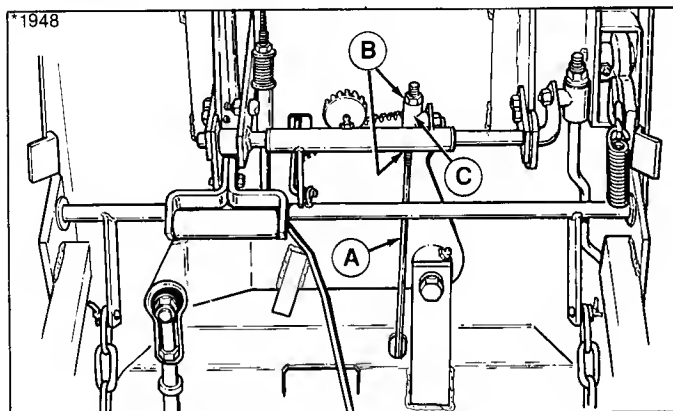

Figure 40. Hydro Control Rod
2. Loosen nuts (B, figure 40) on either side of guide (C). Leave 1/4" clearance on each side.
6. Loosen the jam nut (B). Turn the inner nut (D) either left or right until the output pulley (C) stops turning.
7. Tighten the two capscrews (A).
8. Tighten the jam nut (B) against inner nut (D).
11. Tighten the two nuts (B, figure 40) against the guide. Make sure rod guide does not move when tightening nuts.